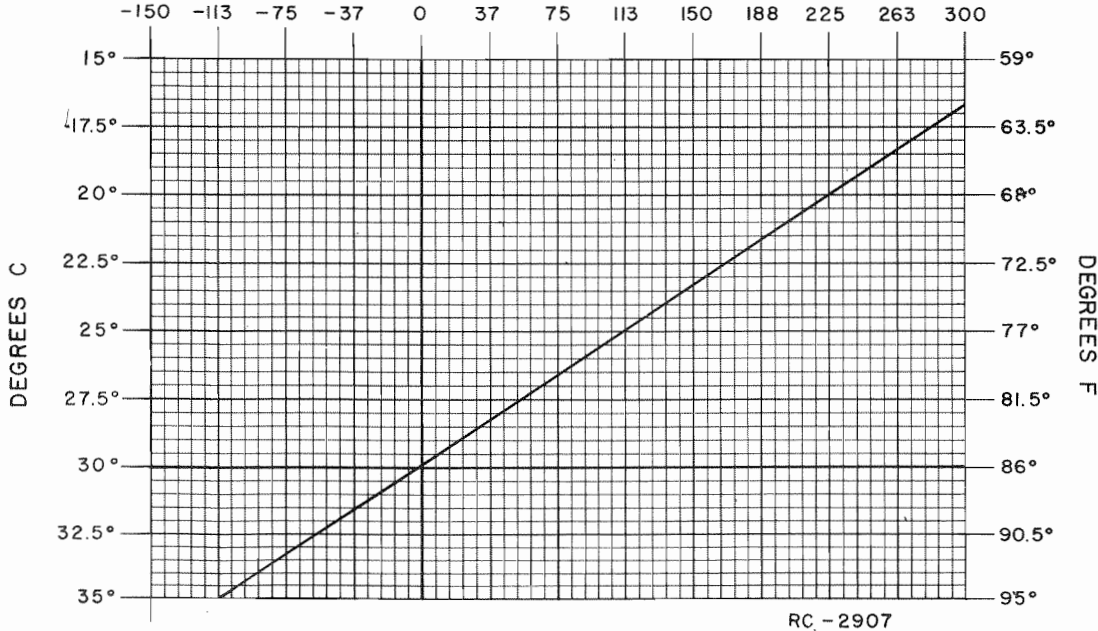

Figure 3 - Frequency Characteristics Vs. Temperature
First, check the frequency to determine if any adjustment is required. (Refer to frequency offset chart, Figure 3.) The frequency measurement requires equipment with an absolute accuracy that is 5 to 10 times better than the tolerance to be maintained. When adjusting the frequency, the entire radio should be as near as possible to an ambient temperature of 30°C (86°F).
To set crystal frequency using "beat frequency" method, the temperature should be at 30°C (86°F). If the temperature is not 30°C, then offset the "ON FREQUENCY" signal (at the receivers input), as a function of actual temperature, by the frequency ERROR FACTOR shown in Figure 3.
2. Maintain the radio at 30°C ($\pm 5^\circ\text{C}$, -10°C) and offset the oscillator, as a function of actual temperature, by the frequency error shown in Figure 3.